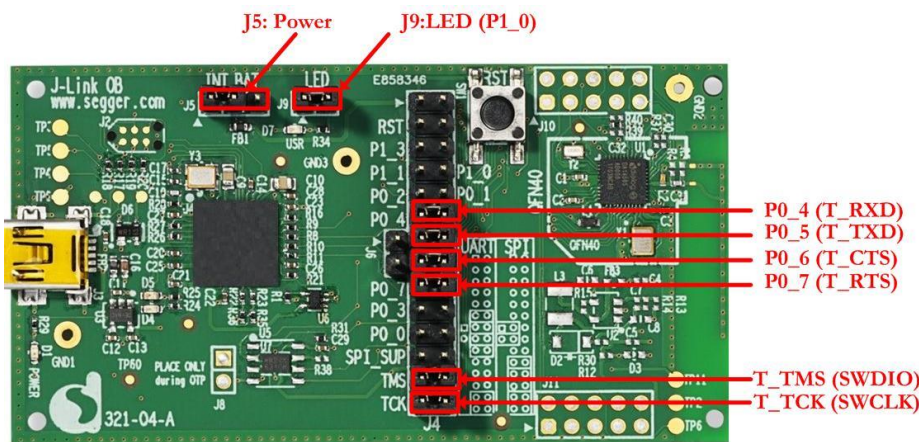

Figure 2: The DA14585/586 Basic Kit Jumper Setting
- UART connectivity is enabled by shorting header as presented in Figure 2.